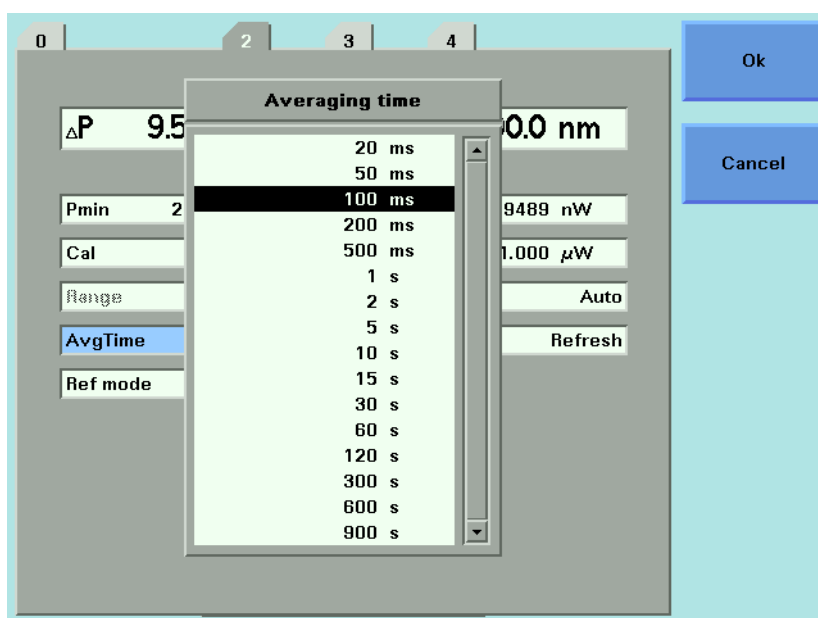

Figure 24 Averaging Time Menu
- 2 Move to the <Averaging Time> parameter and press *Enter*. You see the screen in Figure 24 .